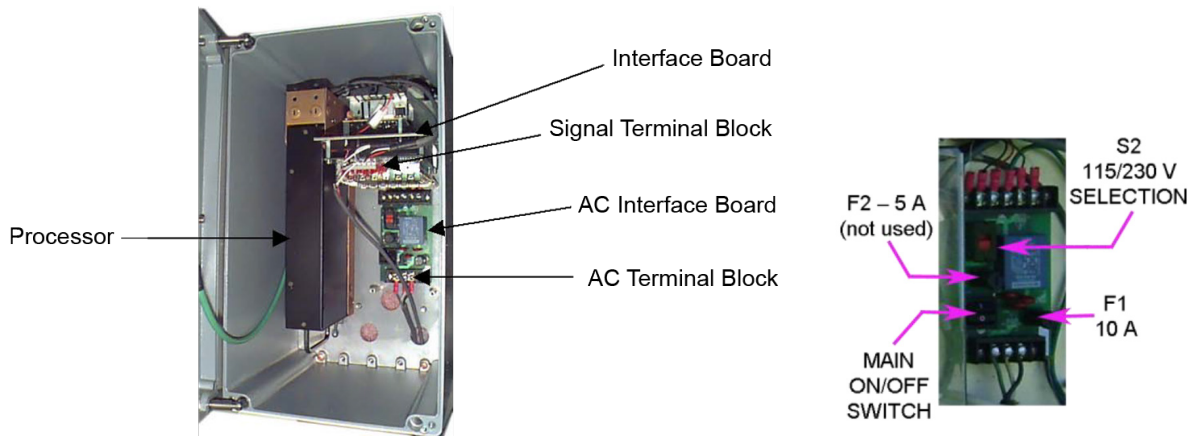

Figure 5. AC Interface Board
Two fuses are located on the AC Interface Board (see Figure 5). Though always installed, fuse F2 is not needed. Replace the fuses only with fuses of the same rating, as shown below. The AC supply voltage is set with switch S2.
1. Connect the signal wires to the interface board inside the enclosure (Figure 5) according to Table 5.
2. Connect the incoming AC power wires to the AC interface board inside the enclosure (Figure 5) according to Table 5.
1. Connect the signal wires to the interface board inside the enclosure (Figure 5) according to Table 6.
2. Connect the incoming AC power wires to the AC interface board inside the enclosure (Figure 5) according to Table 6.